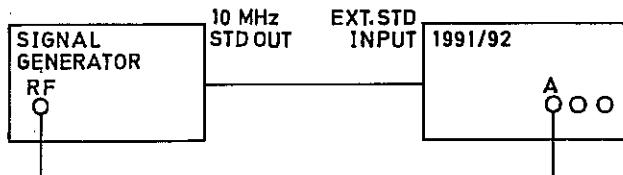

Fig 7.15 Connections for Channel A Sensitivity PVP
- 45 (1) Switch on the 1991/92. Select 50 Ω on channel A.
(2) Connect the test equipment as shown in Fig 7.15. Check that the EXT STD indicator lights.
(3) Set the signal generator output to the frequencies shown in Table 7.4 in turn. Set the 1991/92 resolution to the corresponding value.
(4) At each frequency, determine the minimum input level to the 1991/92 which gives stable counting. Verify that this is not more than the level shown in the table.
(5) Disconnect the test equipment.